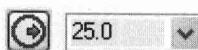

Fig.1-10 Unlocked
① Unlocked (shown in Fig.1-10): The data to change to the position of the cursor in the graphics window.
- ① 不锁定(如图 1-10 所示): 数据随光标在图形窗口的位置改变。